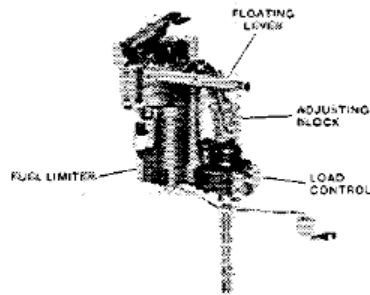

Figure 5-62. Fuel Limiter and Load Control Assembly
37. Install fuel limiter/load control assembly (Figure 5-62) in column.